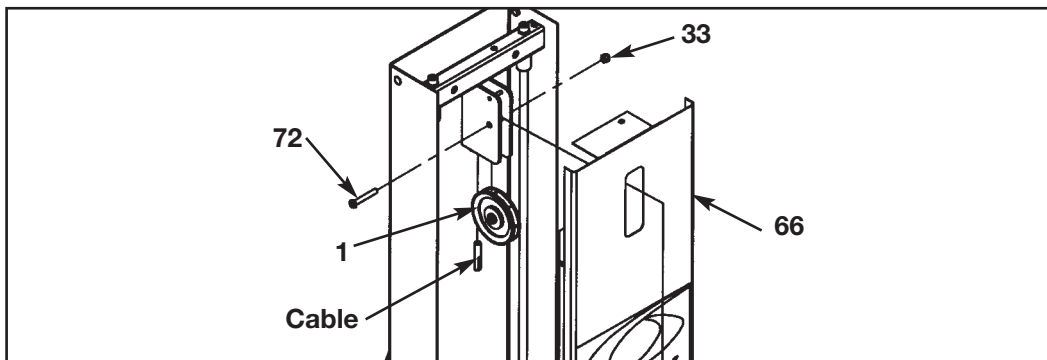

Figure 19
- C. With top part of back cover (#66) leaned back, route cable/install pulley (#1) using one BHSCS .375-16 x 2.50 (#72) and one nylon locknut .375-16 (#33). See Figure 19.